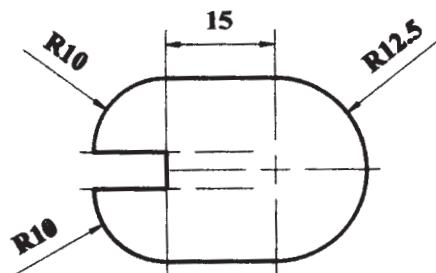

Fig. 1: Structural steel 1.4mm thick
- Q1)** a) What is stopper? Explain at least two types of stoppers and which will be selected for the blanking component in fig.1 [8]
b) Find center of pressure for the blank in fig.1. [8]
- Q2)** Design a blanking die for the blank in fig.1. (Given :- $\tau = 250\text{N/mm}^2$)